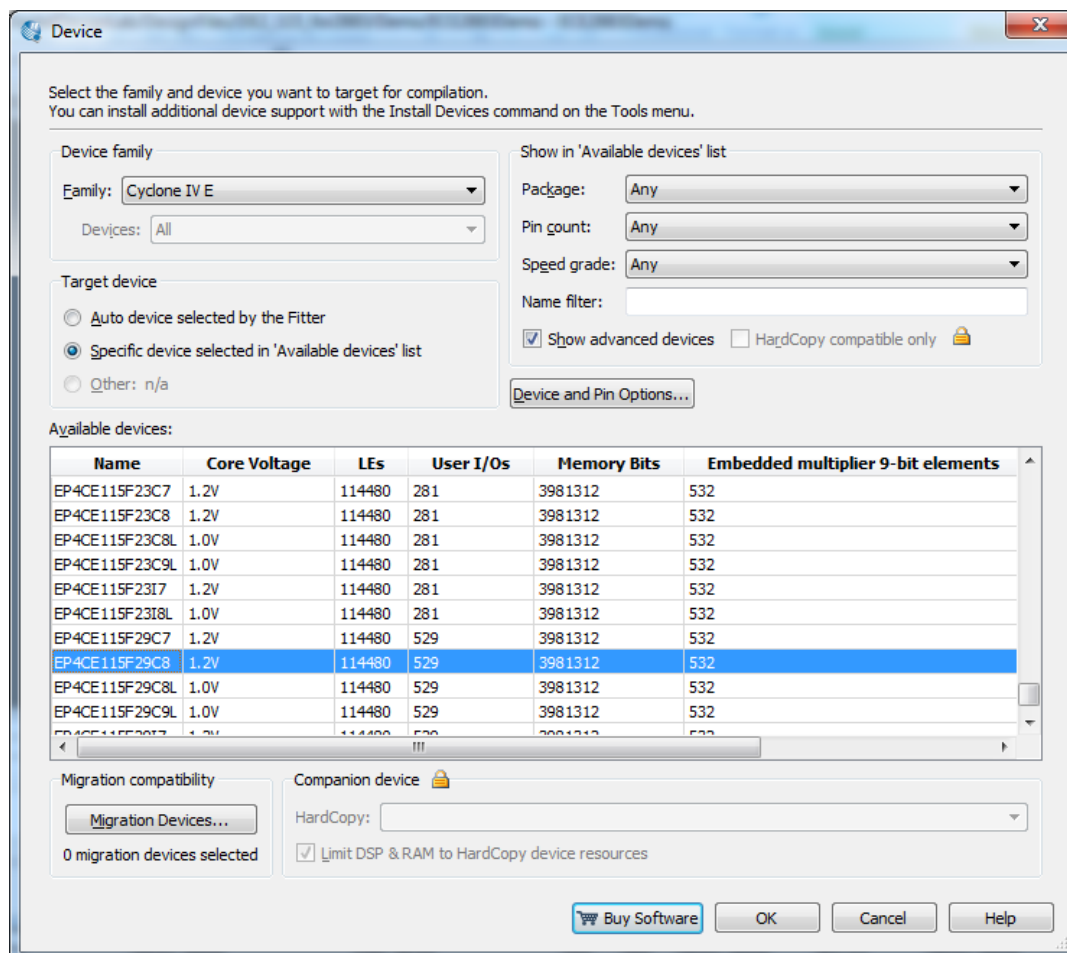

Figure 6. Device settings for the FPGA on the DE2-115 board.
Whenever a project is compiled for the DE2-115, you must select the “Assignments => Device...” menu option, and in the dialog that follows, choose the Cyclone IV E family, and the EP4CE115F29C8 device name, as shown in Figure 6. This corresponds to a similar step in the tutorial, where a different (Cyclone II) device was used.
- Then make the device assignment shown earlier in Figure 6, noting that Quartus will recommend removing all pin assignments. Agree to this, since those pin assignments for a different FPGA are useless.